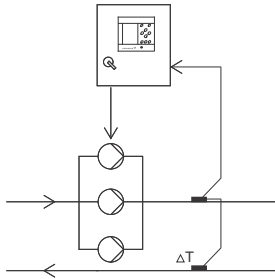

Fig. 13 Differential temperature
- Differential temperature with one sensor signal. See fig. 13.